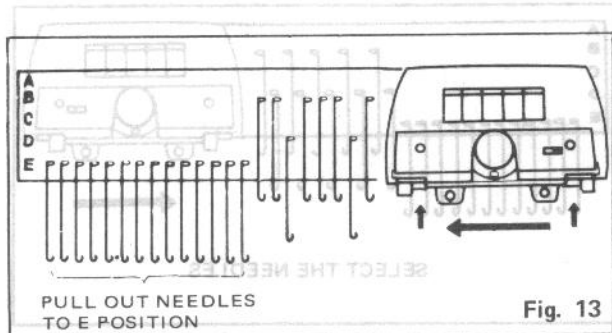

Fig. 13
2. Select the needles according to the relative knitting diagram, and knit one row. (Fig. 13)